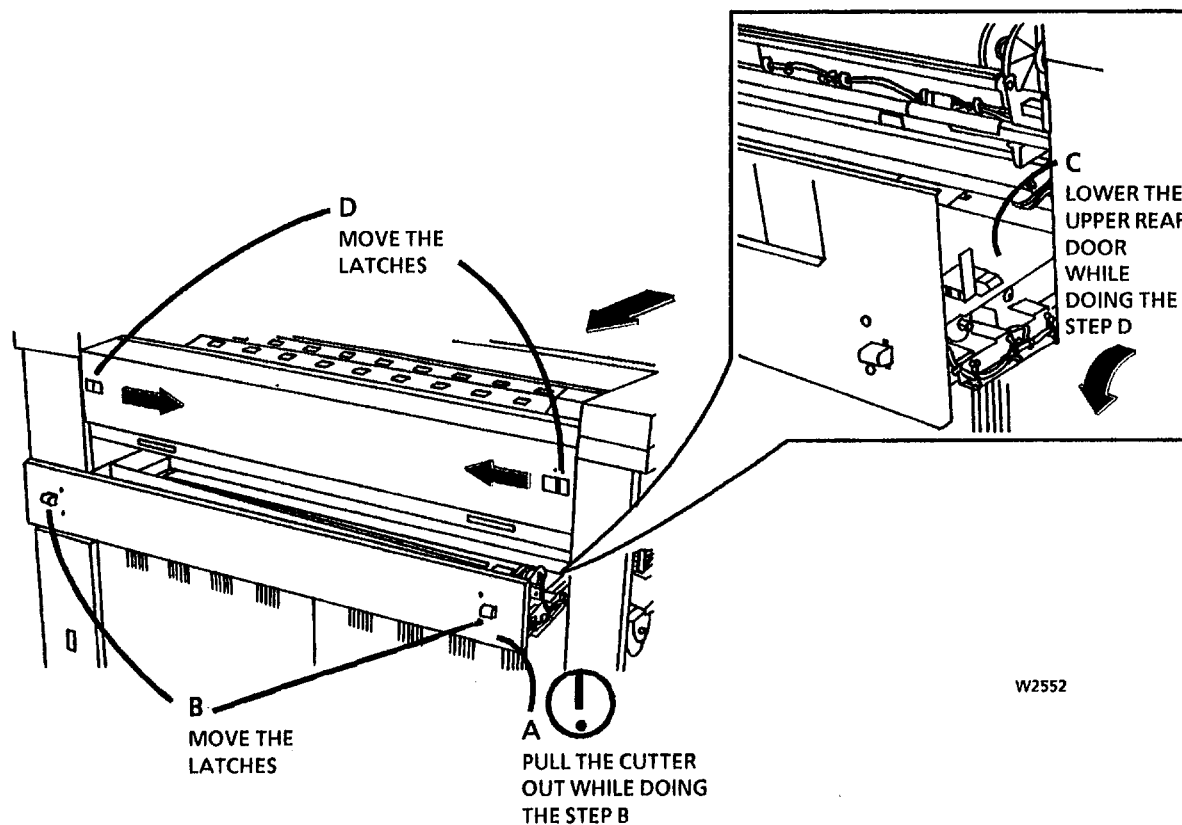

Figure 1. Lower the Upper Rear Door
3. (Figure 1): Lower the Upper Rear Door.